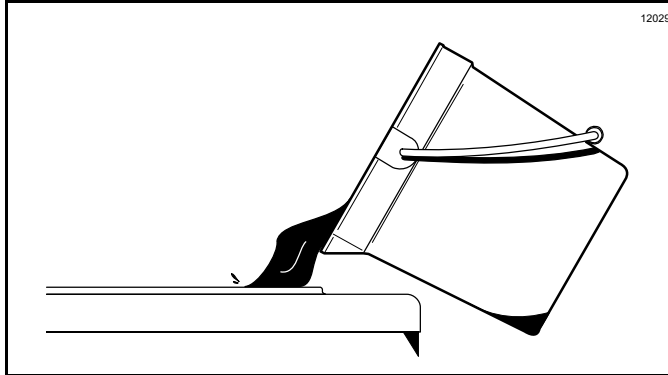

Figure 6-38
2. Pour the sanitizing solution over all the parts in the bottom of the mix hopper and allow it to flow into the freezing cylinder. (See Figure 6-38.)